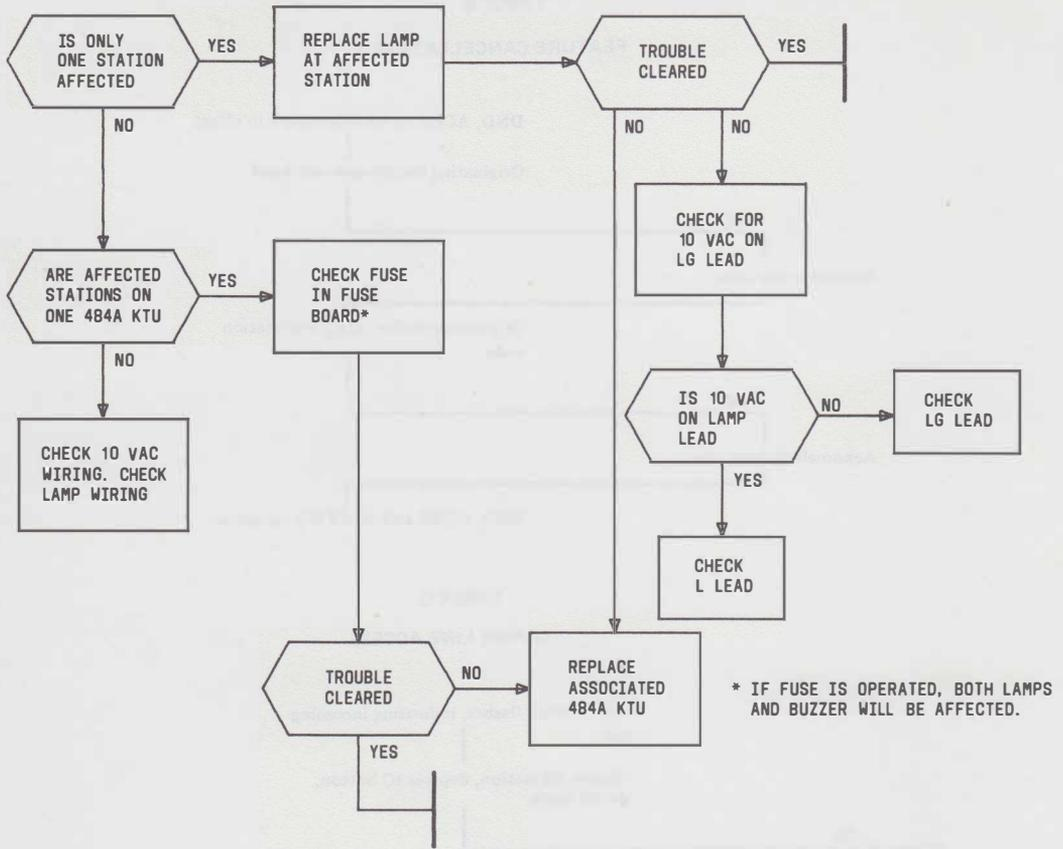

Fig. 9—Intercom Lamp Does Not Light
- Trouble analysis charts (Fig. 9 through 18)